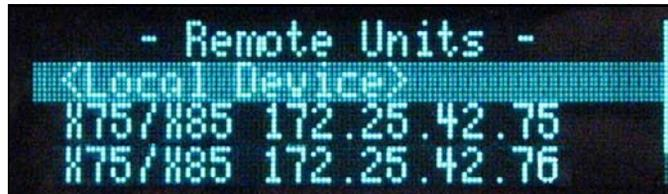

Figure 7-3. List of Systems Available for Remote Control
2. On the X75-RCP, press the **Remote** button to bring up a list of available units for control (see Figure 7-3).